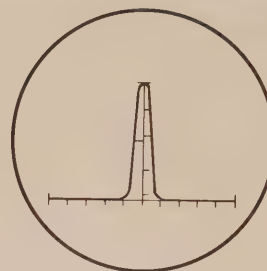

Figure 5
- ( ) Turn the slug of coil L3 until the IF signal pip is centered on the screen base line. If the top of the pip is off the CRT screen, reduce the signal generator output until the complete pip pattern is visible, as shown in Figure 5.